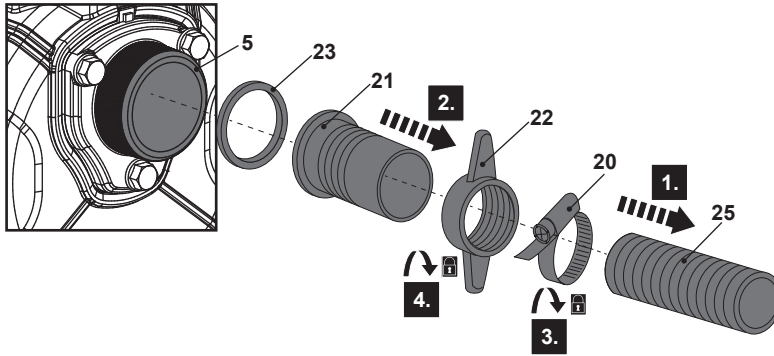

Fig. 2
- Attach the clamp (20) on the suction hose (25) (not provided). Do not fix the clamp at this step (Fig. 2, step 1).
- Attach the connector (21) on the connector wrench (22) (step 2).
- Attach the seal ring (23) on the connector. Align the connector wrench to the inlet (5). Turn the connector wrench clockwise to secure the suction hose to the inlet (step 4).